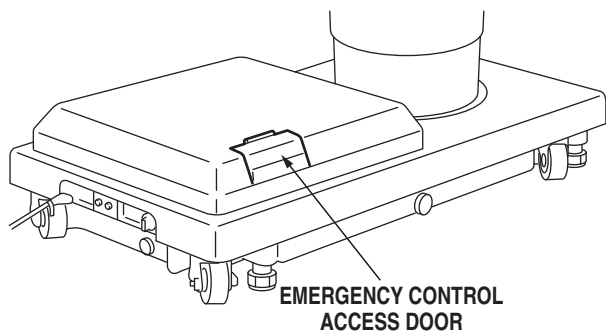

Figure 2-17. Emergency Controls Location
a. The emergency back-up control switches are located under the access door on the service access cover in the table base. See figure 2-17.